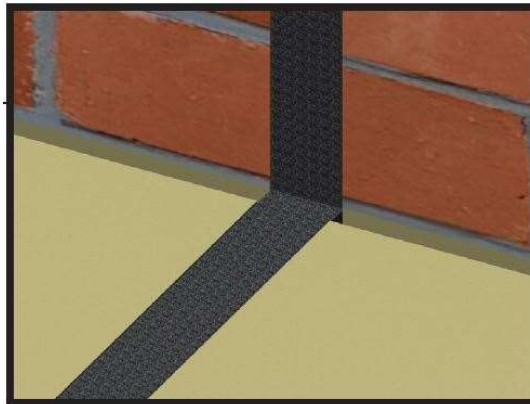

Figure 10
- Butt the vertical material up to the horizontal material following Steps #6 & 7. See **Figure 10**